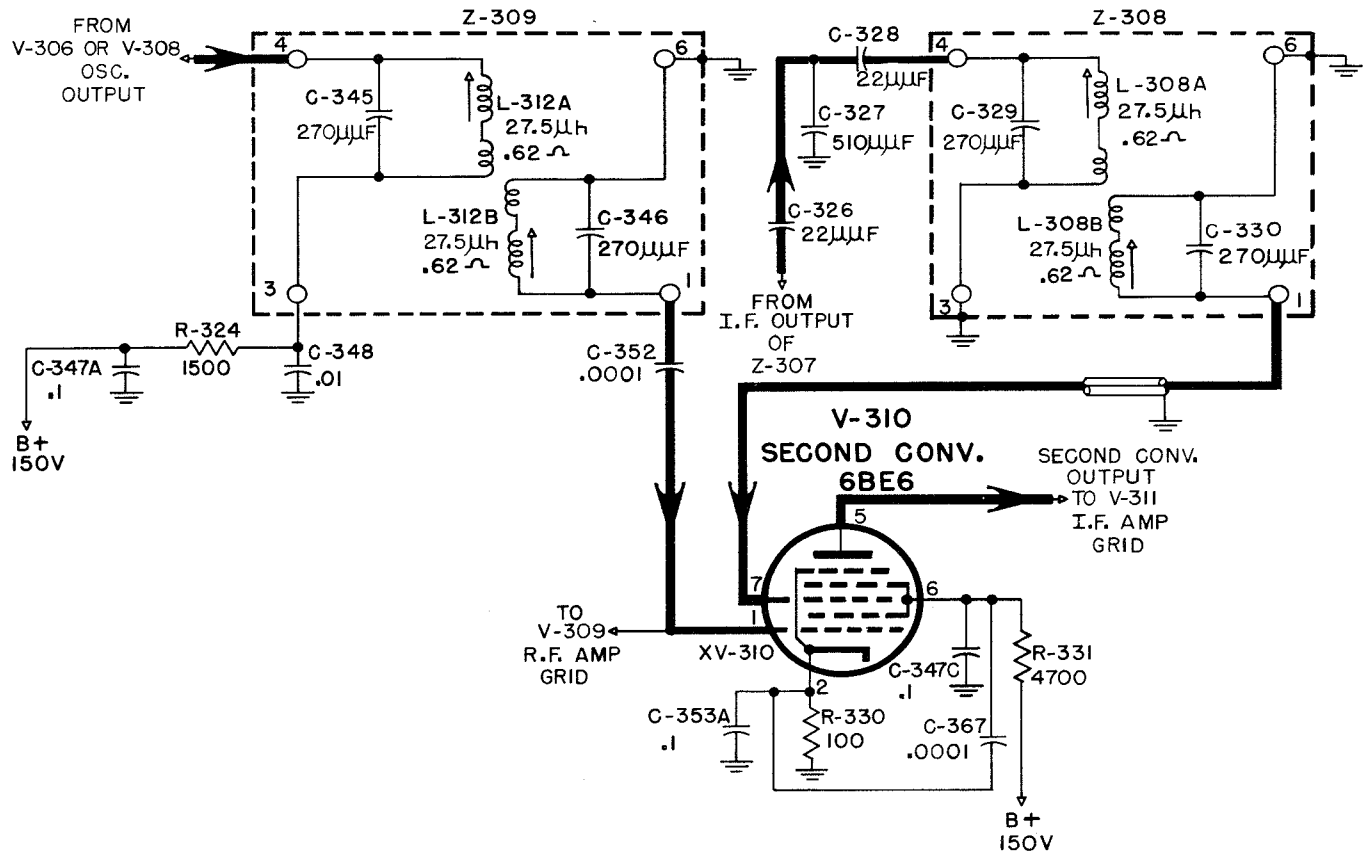

Figure 2-11. Second Converter Stage V-310, Simplified Schematic Diagram
(2) SECOND CONVERTER CIRCUIT, V-310 (CV-126/FRR-24). (See Figure 2-11).—The 1750 kc. output of Z-308 is directly coupled to the signal grid of the second converter tube V-310, a type 6BE6. Simultaneously the output from Z-309 is coupled through capacitor C-352 to the injection grid of V-310. The frequency of this signal is 1700 kilocycles. Cathode bias is obtained by the voltage drop across resistor R-330 which is bypassed by capacitor C-353A. Screen voltage is applied through screen dropping resistor R-331 bypassed by capacitor C-347C. Plate voltage is applied through plate resistor R-332 and transformer Z-311 bypassed by capacitor C-353B. Capacitor C-367 is used for parasitic suppression. Frequency conversion from 1750 kilocycles to 50 kilocycles is accomplished in this stage. The 1750-kilocycle signal is combined with the output of either one of the two 1700-kilocycle oscillators or from a remote oscillator. The resultant frequency of the output signal